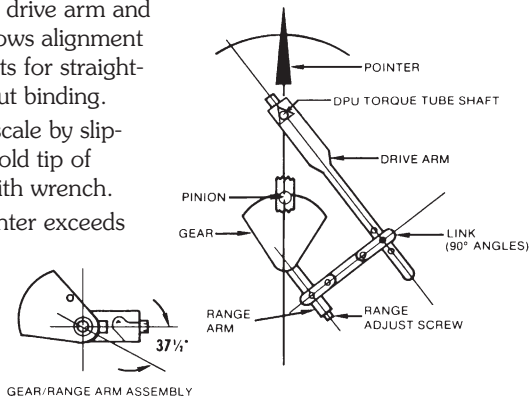

Figure 3-3. Linkage at 50% DP
2. Attach linkage between drive arm and movement. Fig. 3-3 shows alignment at 50% DP. Inspect parts for straightness and pivot-fit without binding.